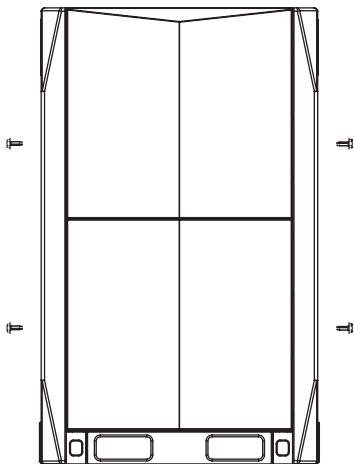
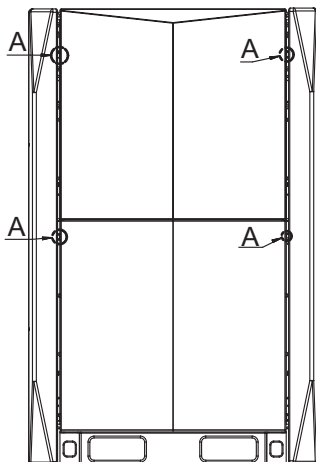
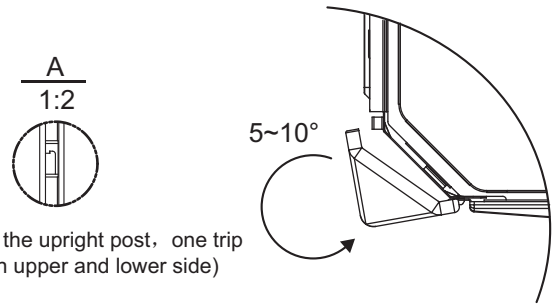

Fig.4-15
Fig.4-16
Fig.4-17
- First, dismantling the frontal left and right upright posts: dismantle the 4 screws of the left and right upright posts. (Fig 4-15), and then rotate the upright posts and uplift them for around 2mm(Fig 4-16 and Fig 4-17) to remove the left and right upright posts.